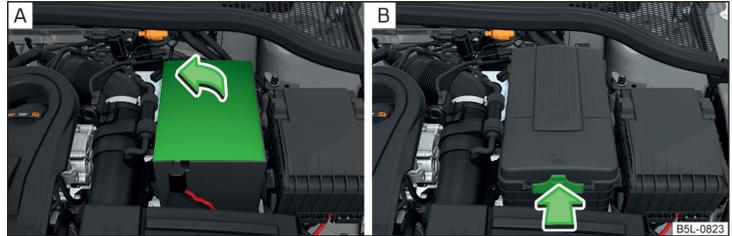

Fig. 164 Polyester vehicle battery cover / plastic vehicle battery cover
The battery is located in the engine compartment - in some models, underneath a polyester cover » Fig. 164.
- Open the battery cover in the direction of the arrow » Fig. 164- A or press the catch on the side of the battery cover in the direction of the arrow » Fig. 164- B.